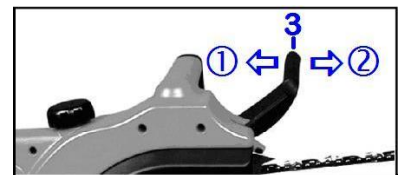

Fig.7
1. The chain brake is disengaged (i.e. chain can move) when brake lever (3) is pulled backwards and locked towards the front handle (① Fig.7).